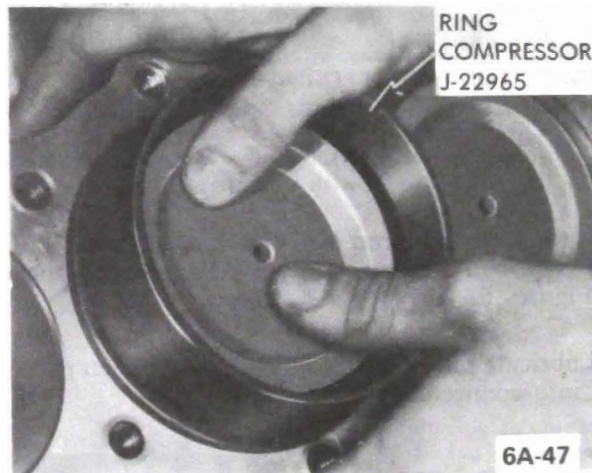

Figure 6A-47 - Installing Piston with Ring Compressor Installed (350 Shown)
13. Lubricate the piston and rings and install in bore by compressing the rings either with a "wrap around" compressor or a ring type such as shown in Figure 6A-47.
of the engine for the left bank. See Figures 6A-40, 41, 42, 43, 44 and 45.